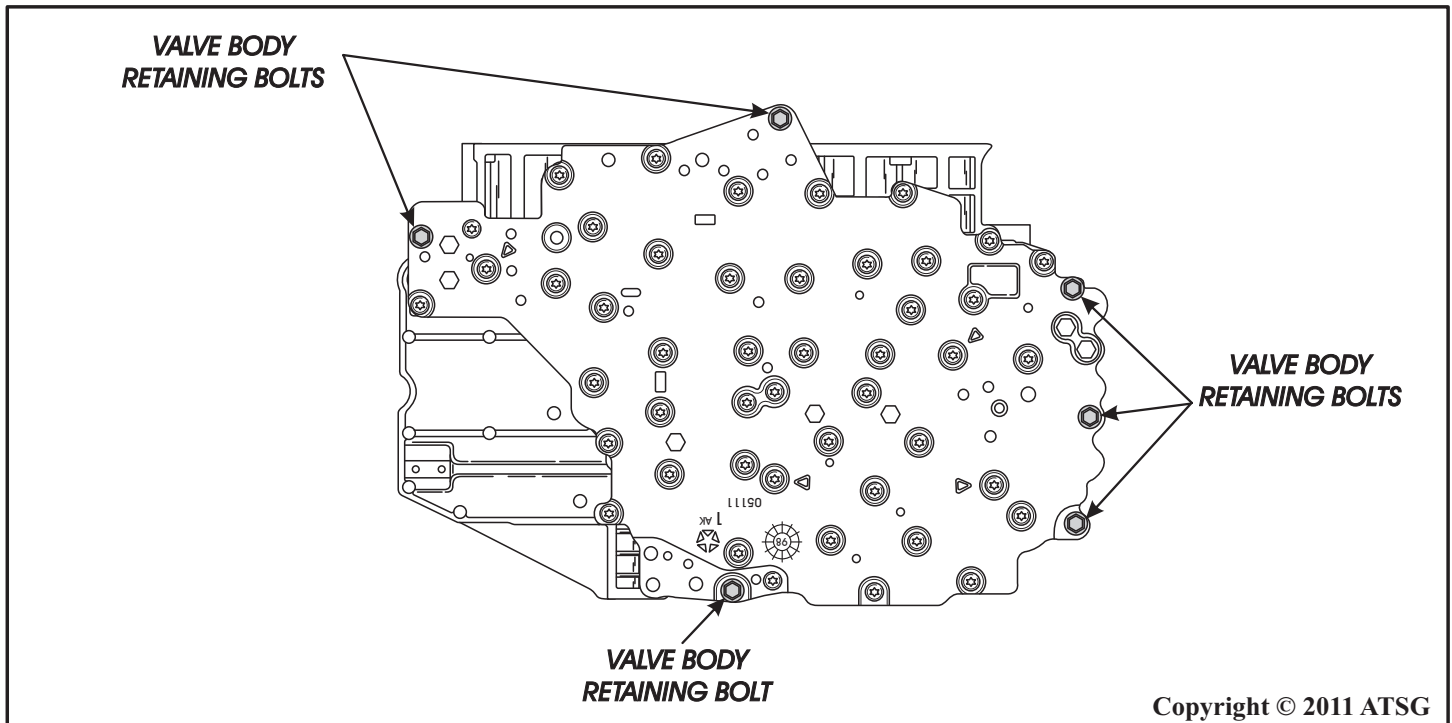

Figure 42
**Note: The valve body to case retaining bolt locations are shown in Figure 42.**